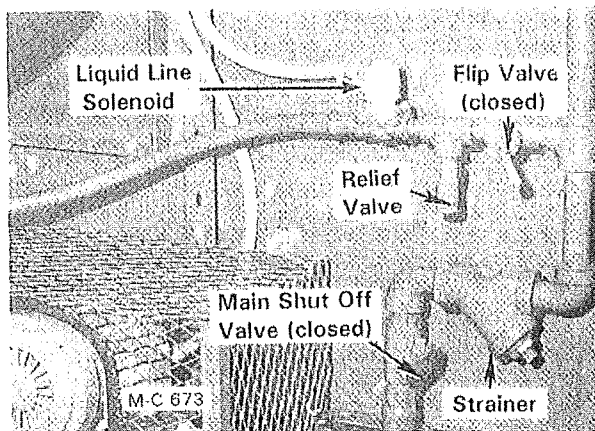

Figure 15
2. LP Gas - Close the liquid line flip valve for each burner(s) (handle down). See Figure 15.
- LP Gas** - Open the supply valve at the tank and lift up on the dryer liquid line Flip Valve(s) located after the strainer. See Figure 15. The flip valve is open when the handle is 90° to the piping.